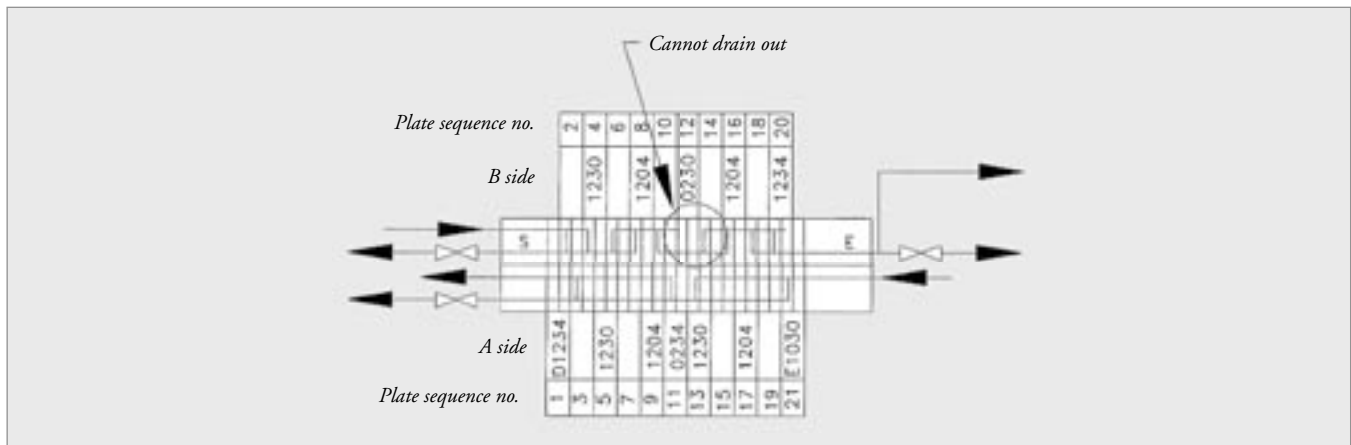
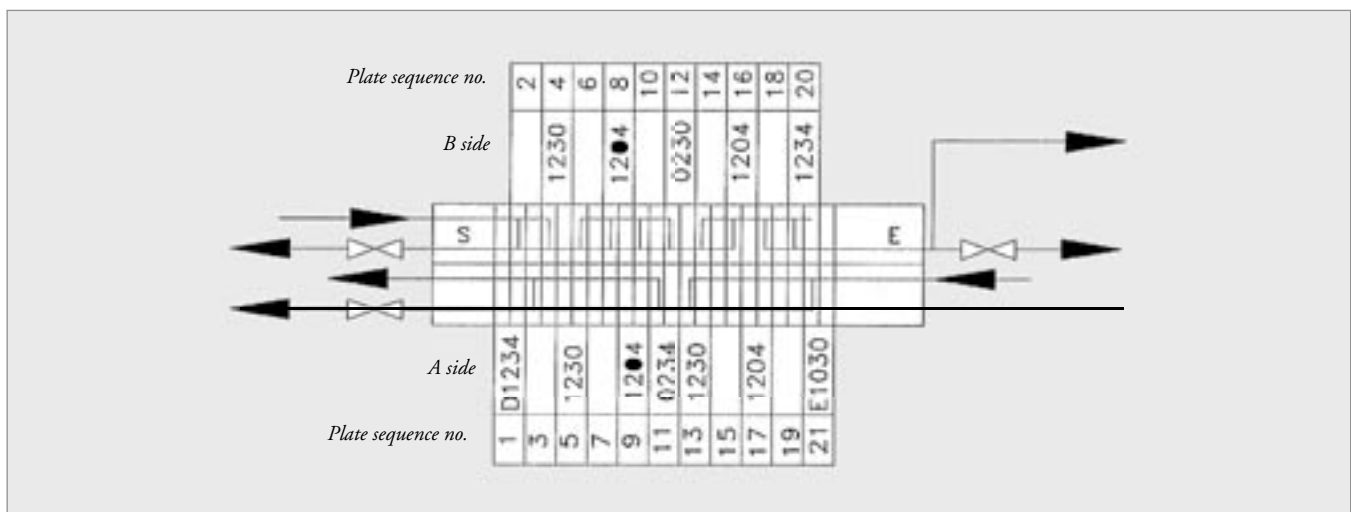
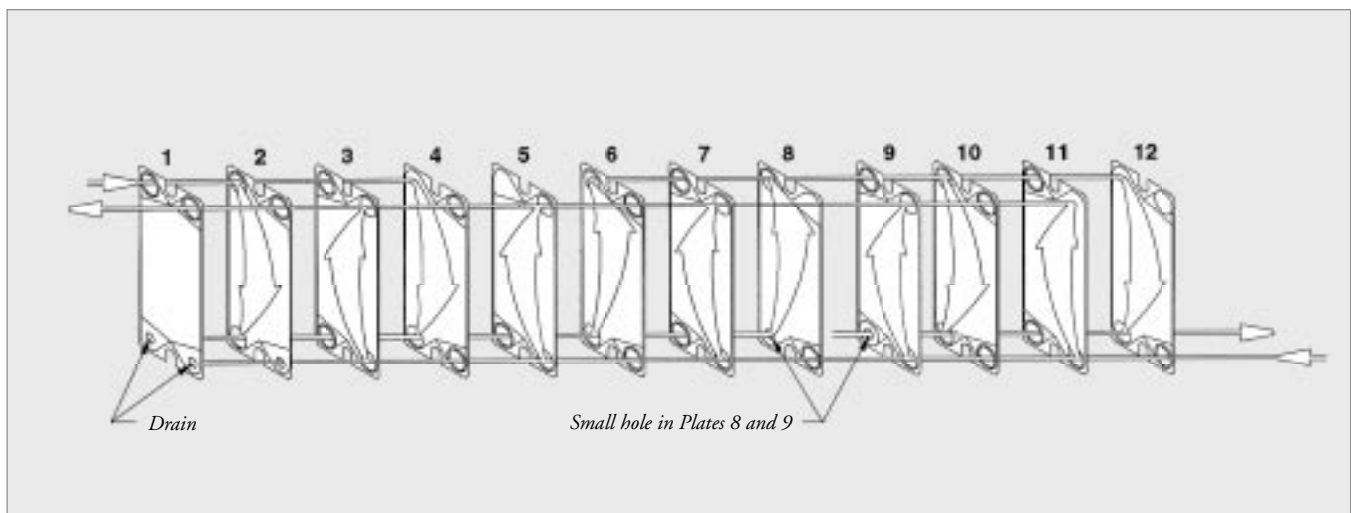

Figure 20
Figure 21
Figure 22
3. If the number of passes is greater than four as in Figure 20, the above options require the addition of small holes in plate corner sections as shown in Figure 22. The amount of by-pass through these holes is negligible and there is no possibility of fluid intermix. These drain holes in the element composition diagram (Figure 21) are noted by ●, as the small hole is always placed in the corner without a passage hole. For example, 1204 is changed to 12●4 if a drain hole is present. The size and position of the drain hole is separately specified.
Showing first 12 of the 21 plates in Figure 21 with drains in plates 8 and 9.